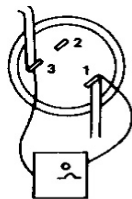

Figure 10. Overload Check
OVERLOAD CHECK (See Figure 10)
3. Compressor thermal overload, automatic reset type. See Figure 10.